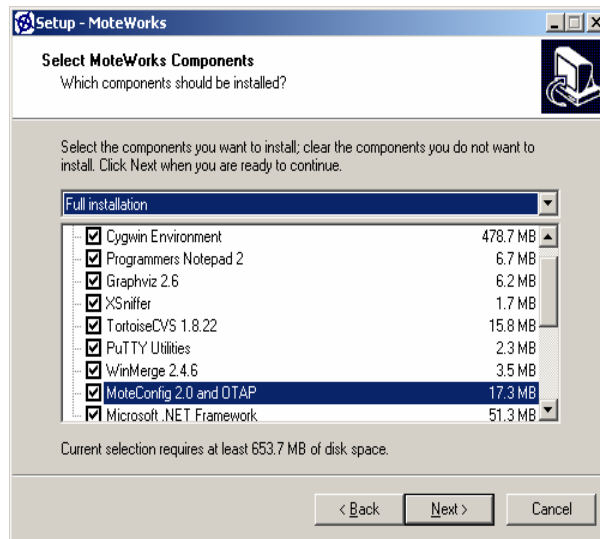

Figure 2-1: MoteConfig 2.0 and OTAP – MoteWorks Installer
2. *MoteConfig* is an optional component in the *MoteWorks* installer. Make sure that MoteConfig 2.0 and OTAP item is selected as shown in Figure 2-1.